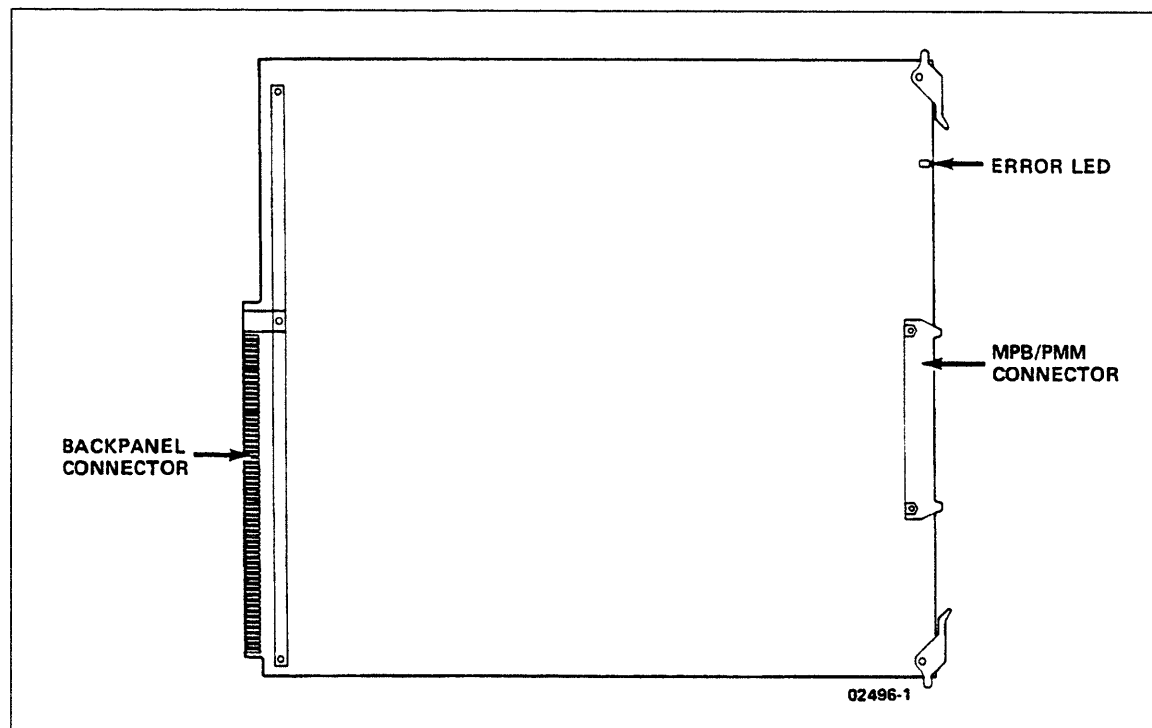

Figure 3-24. PMM Board
1. Unpack PMM board and MPB/PMM cable (figures 3-24 and 3-25) equipment identification tag, and FCO label.